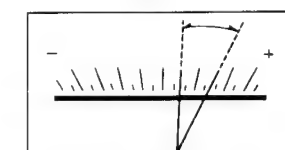

Fig. 19
4. At this time, confirm that the level meter indication is within a range of -1dB to +1dB (shown in fig. 19) (Confirm this for both L and R channels.)